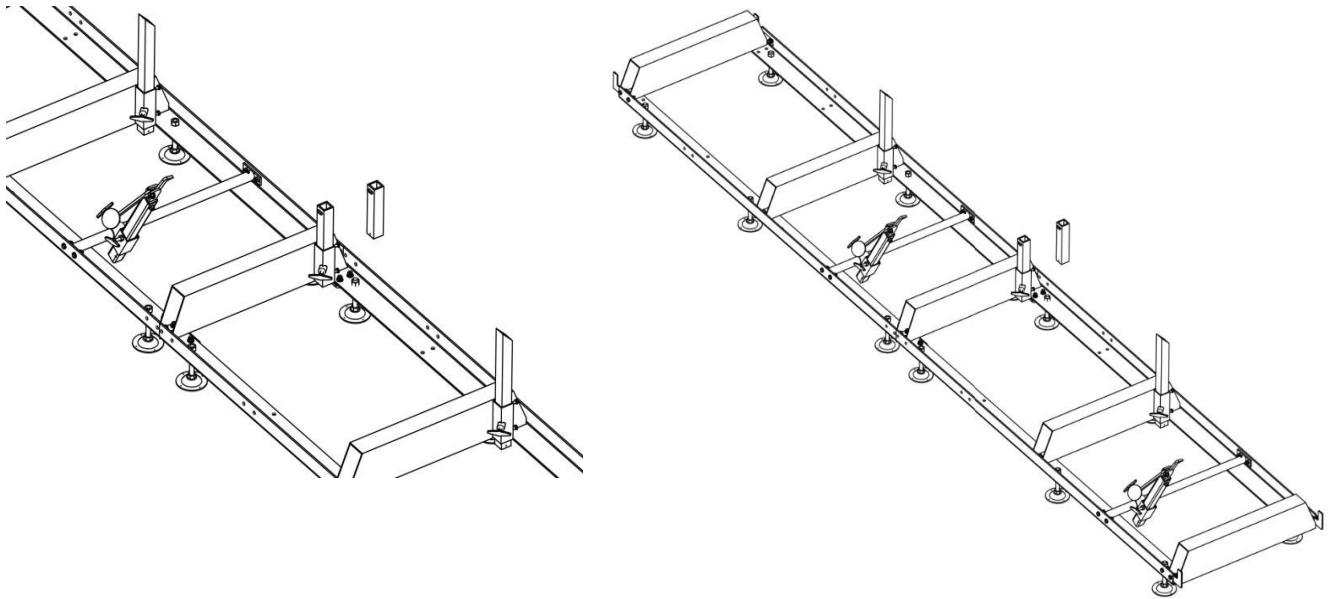

Fig.5-5: Mounting supports
5. Insert the trunk supports into the cross supports of the rail and secure them with the T-handles (Fig. 5-5)